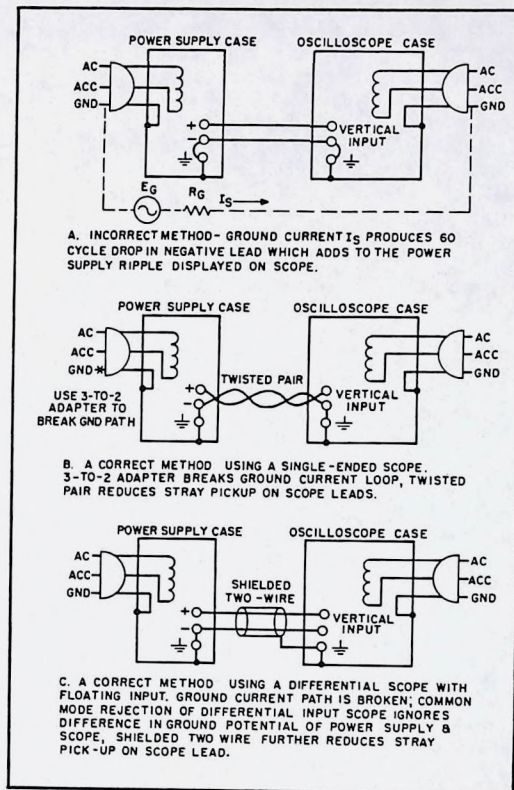
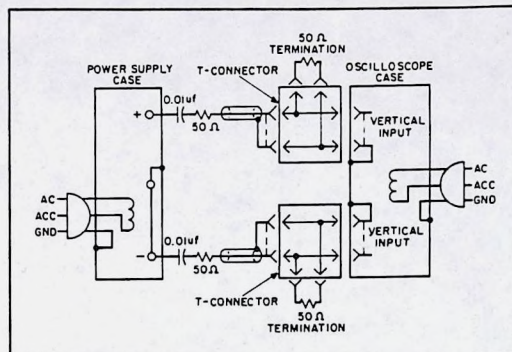

Figure 5-4. Ripple and Noise, Test Setup
Figure 5-5. Noise Spike Measurement, Test Setup
5-19 The same ground current and pickup problems can exist if an RMS voltmeter is substituted in place of the oscilloscope in Figure 5-4. However, the oscilloscope display, unlike the true RMS meter reading, tells the observer immediately whether the fundamental period of the signal displayed is 8.3 milliseconds (1/120Hz) or 16.7 milliseconds (1/60Hz). Since the fundamental ripple frequency present on the output of an ϕ supply is 120Hz (due to full-wave rectification), an oscilloscope display showing a 120Hz fundamental component is indicative of a "clean" measurement setup, while the presence of a 60Hz fundamental usually means that an improved setup will result in a more accurate (and lower) value of measured ripple.
1. As shown in Figure 5-5, two coax cables must be substituted for the shielded two-wire cable.
5-27 The circuit of Figure 5-4 can also be used for the normal measurement of low frequency ripple and noise; simply remove the four terminating resistors and the blocking capacitors and substitute a higher gain vertical plug-in in place of the wide-band plug-in required for spike measurements. Notice that with these changes, Figure 5-5 becomes a two-cable version of Figure 5-4C.